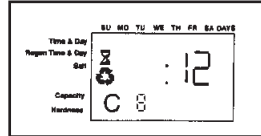

Figure 13
- C) With the water supply completely open, when you arrive at cycle C8 (Refill), the controller will direct water down through the line to the brine tank. Let the water flow through the line until all air bubbles have been purged from the line (Figure 13).